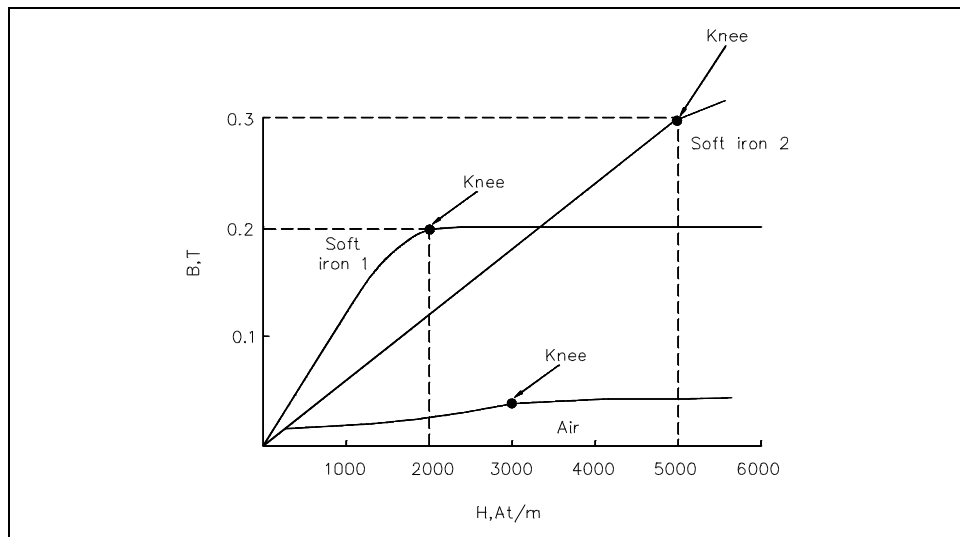

Figure 27 Typical BH Curve for Two Types of Soft Iron
The BH Magnetization Curve (Figure 27) shows how much flux density (B) results from increasing the flux intensity (H). The curves in Figure 27 are for two types of soft iron cores plotted for typical values. The curve for soft iron 1 shows that flux density B increases rapidly with an increase in flux intensity H, before the core saturates, or develops a "knee." Thereafter, an increase in flux intensity H has little or no effect on flux density B. Soft iron 2 needs a much larger increase in flux intensity H before it reaches its saturation level at $H = 5000$ At/m, $B = 0.3$ T.
Air, which is nonmagnetic, has a very low BH profile, as shown in Figure 27.
The average value of permeability is measured where the saturation point, or knee, is first established. Figure 27 shows that the normal or average permeability for the two irons as follows.